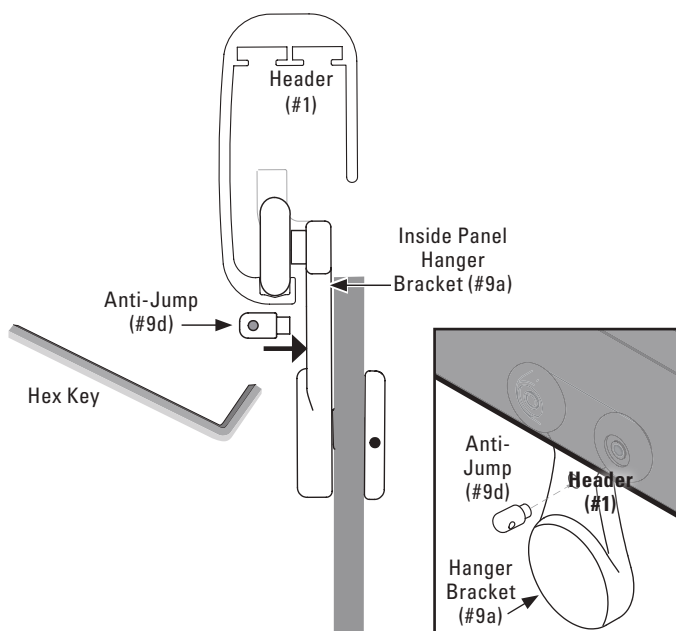

Figure 12
1. Remove the Inside Panel Anti-jump Screw from Inside Panel Hanger Bracket. (See **Figure 12** on Page 9)
5. After the Inside Panel is aligned and the Adjustable Cam screws are tightened, insert the Anti-Jump into the hole in the Inside Panel Hanger Bracket as shown in **Figure 12** and tighten with the smaller Hex Key.